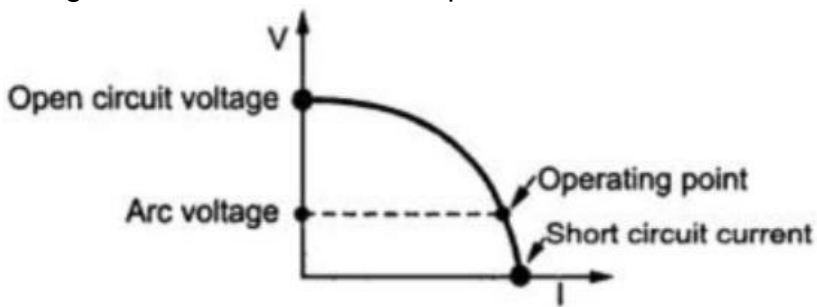

Figure 6: Volt – Ampere (VI) characteristics of welding transformer
7. Figure 6 shows the volt – ampere characteristics of welding transformer